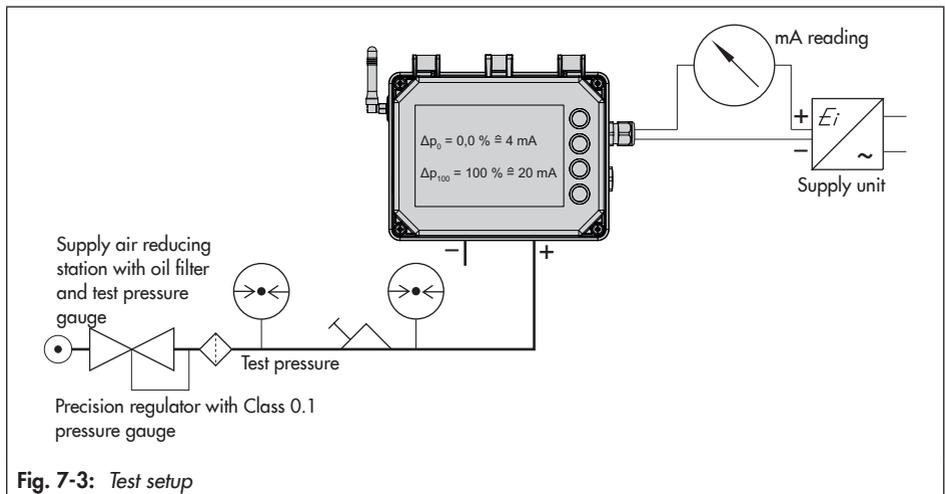

Fig. 7-3: Test setup
- To check the measuring range, connect the differential pressure meter as shown in Fig. 7-3.